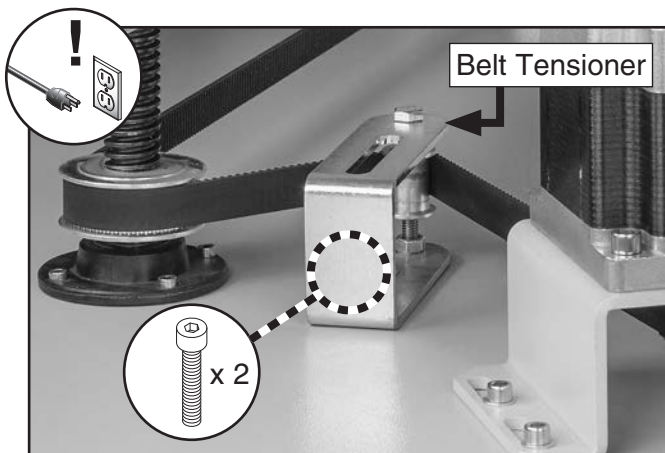

Figure 88. Z-axis belt tensioner components.
5. Loosen (2) cap screws on belt tensioner, then pull belt tensioner away from belt to release tension (see **Figure 88**).